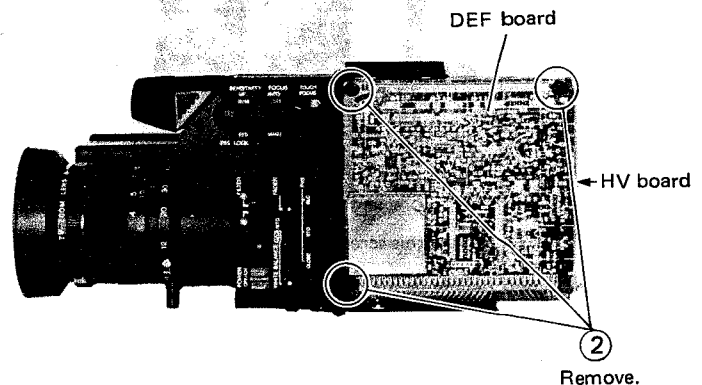

Fig. 1-9 Removal of HV board
1. Remove 6 nylon rivets on VIDEO and DEF boards as shown in Fig. 1-9.